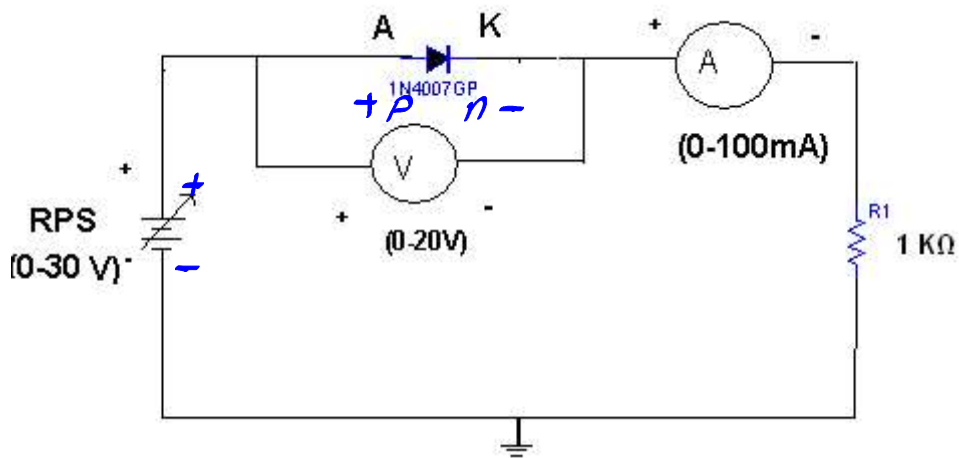

Fig. 3.1: Forward bias
1. Connect the circuit as per the circuit diagram shown in Fig. 3.1